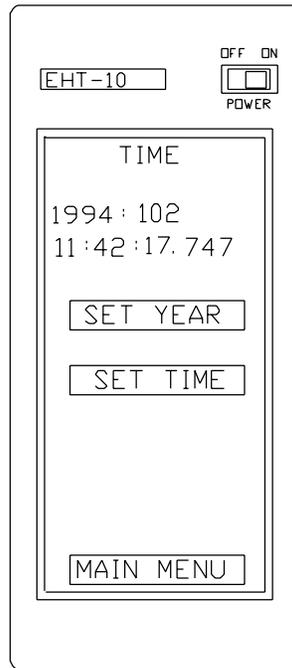

Figure 19 Time Menu
- * Press **Time** on the FST Main menu. The hand terminal displays the Time menu, as shown in figure 19. The Time menu displays the unit's current time, and updates the time about once per second.